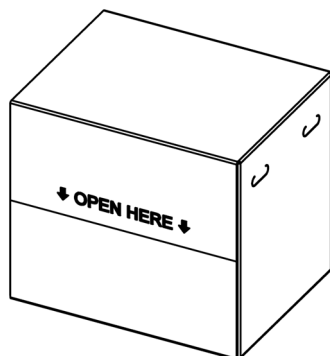

Figure 1-1 Opening the Box
2. With the box facing up as indicated on the packaging, use a box cutter to carefully cut open the side of the box labeled **Open Here** (Figure 1-1).